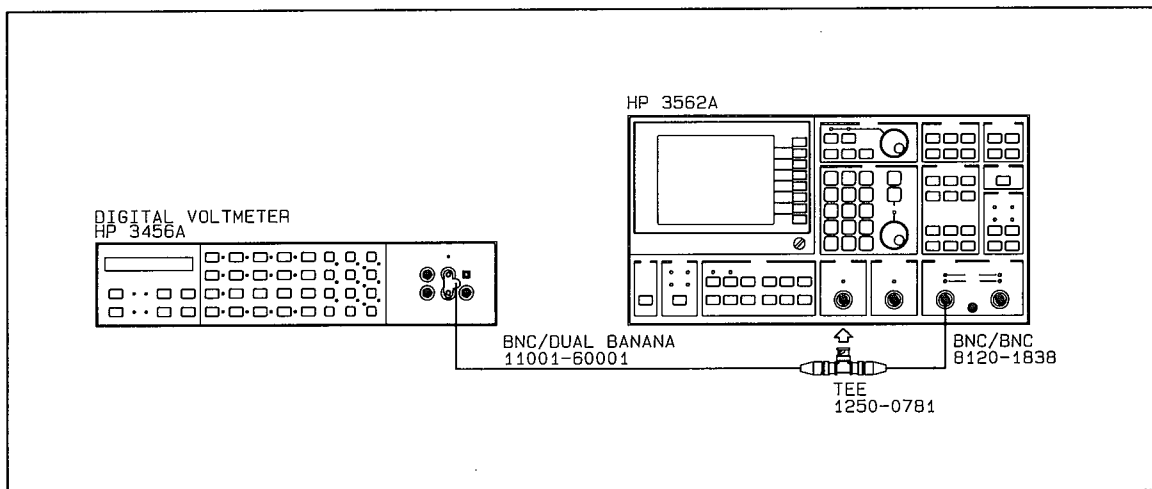

Figure 2-33 Source Energy Measurement Test Setup
A. Connect the test instruments as shown in figure 2-33. Refer to "Initial Equipment Setup," paragraph 2-20, for unspecified parameters.